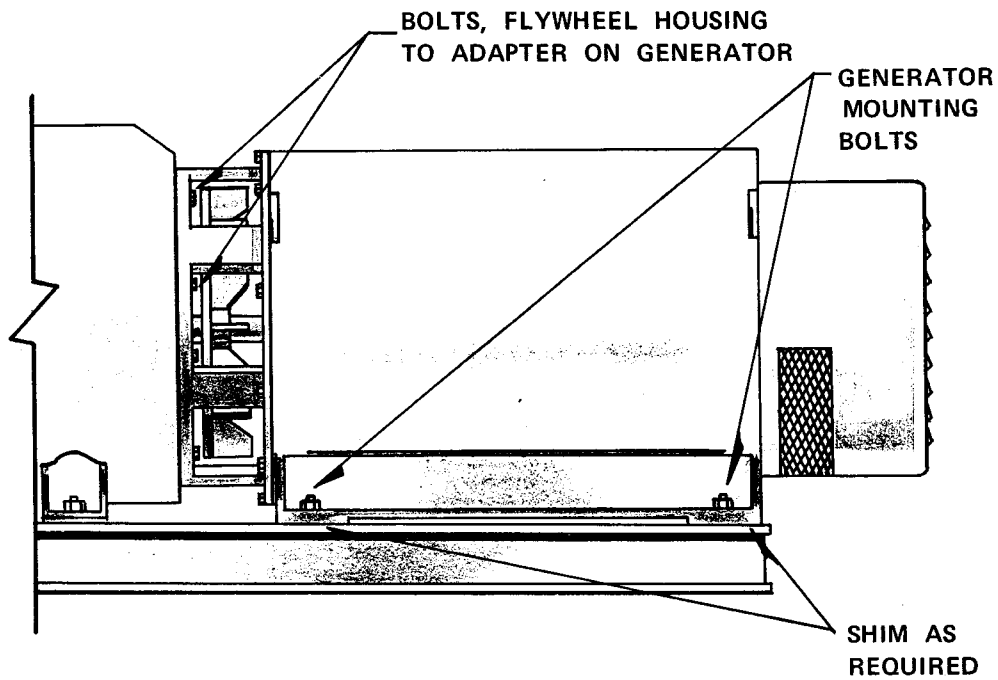

FIGURE 3-2 MOUNTING GENERATOR TO BASE
7. Install and tighten alternately and evenly the bolts which secure the adapter to the flywheel housing. See figure 3-2. Remove the two pilot bolts and install the remaining two bolts.